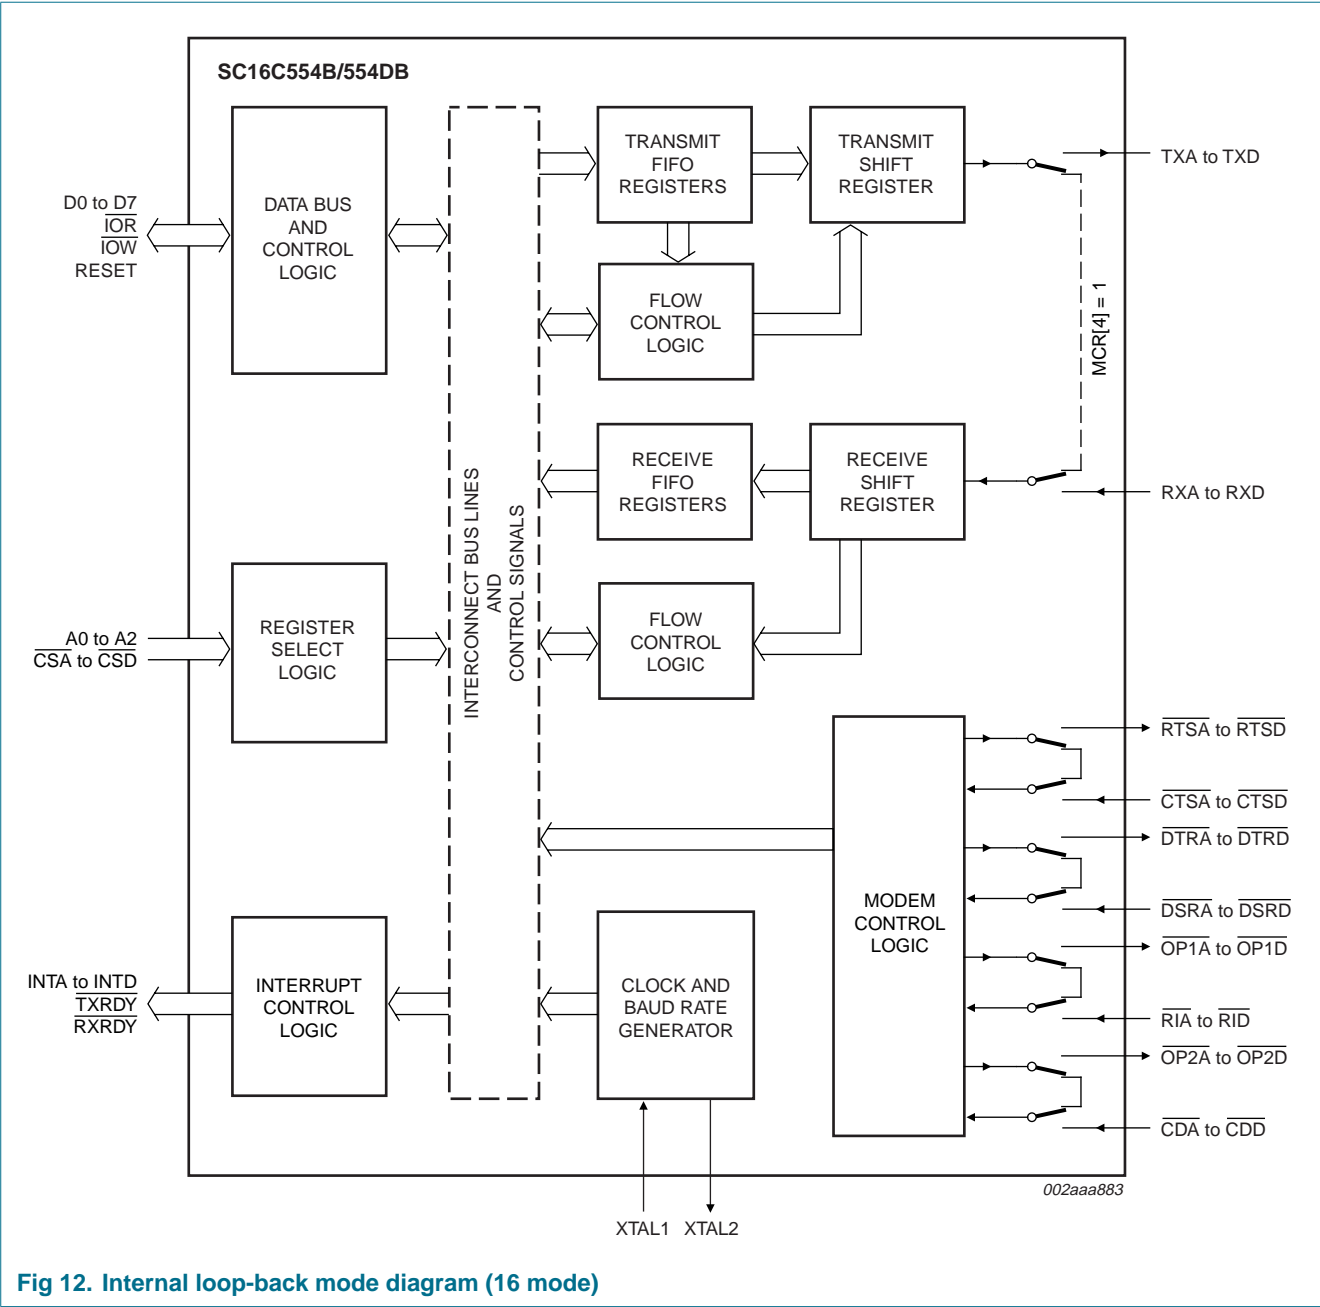

Fig 12. Internal loop-back mode diagram (16 mode)
The internal loop-back capability allows on-board diagnostics. In the loop-back mode, the normal modem interface pins are disconnected and reconfigured for loop-back internally. MCR[0:3] register bits are used for controlling loop-back diagnostic testing. In the loop-back mode,  $\overline{OP1}$  and  $\overline{OP2}$  in the MCR register (bits 2:3) control the modem  $\overline{RI}$  and  $\overline{CD}$  inputs, respectively. MCR signals  $\overline{DTR}$  and  $\overline{RTS}$  (bits 0:1) are used to control the modem  $\overline{DSR}$  and  $\overline{CTS}$  inputs, respectively. The transmitter output (TX) and the receiver input (RX) are disconnected from their associated interface pins, and instead are connected together internally (see Figure 12). The  $\overline{CTS}$ ,  $\overline{DSR}$ ,  $\overline{CD}$ , and  $\overline{RI}$  are disconnected from their normal modem control input pins, and instead are connected internally to  $\overline{RTS}$ ,  $\overline{DTR}$ ,  $\overline{OP2}$  and  $\overline{OP1}$ . Loop-back test data is entered into the transmit holding register via the user data bus interface, D0 to D7. The transmit UART serializes the data and passes the serial data to the receive UART via the internal loop-back connection. The receive UART converts the serial data back into parallel data that is then made available at the user data interface D0 to D7. The user optionally compares the received data to the initial transmitted data for verifying error-free operation of the UART TX/RX circuits.